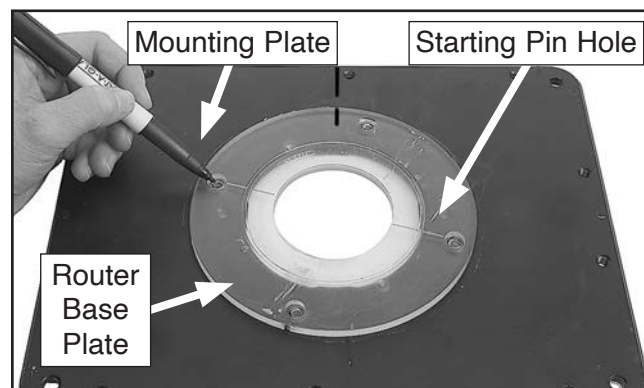

Figure 22. Example of marking holes on mounting plate.
6. Center router base plate on mounting plate (see **Figure 22**), keeping marks made in **Steps 4** aligned.
7. Use router base plate as template to align with pilot holes on bottom-side surface of mounting plate, as shown in **Figure 22**.